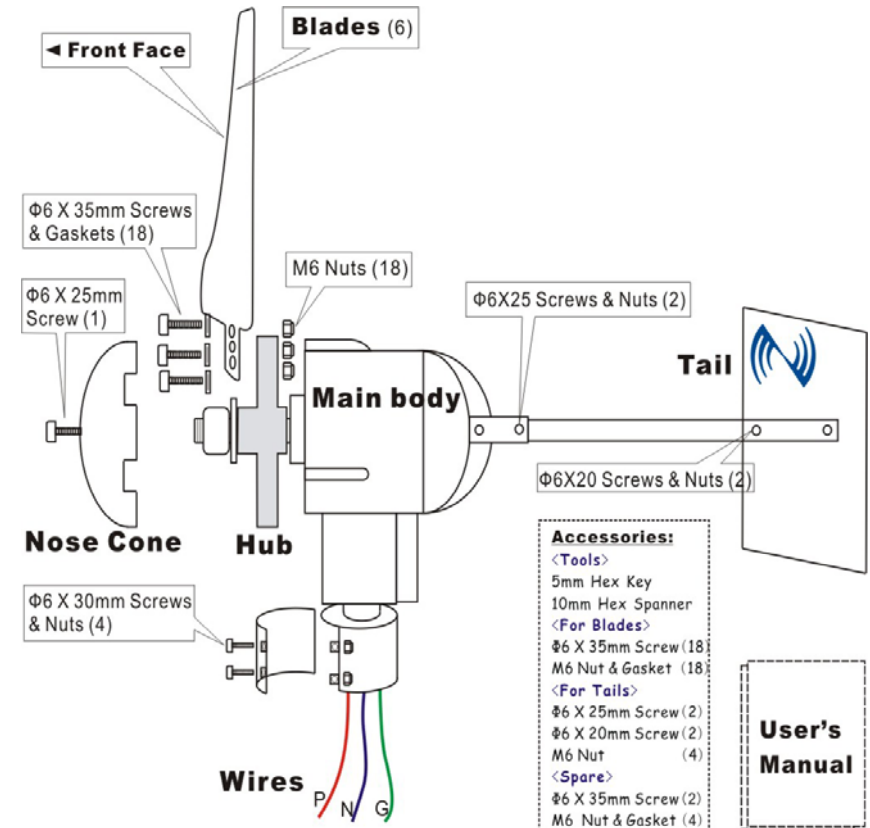

Figure 1: Package
The **MW wind turbine** is shipped partially disassembled. Compare the parts shown in Figure 1 to ensure that the contents of the box contain all necessary parts. And Refer to Figure 1 for assembly instructions.
- Make sure a minimum **50 mm** clearance must be given between the blade tips and any obstructions. Refer to *Figure 1* below.
The following *Step-By-Step-Installation-Procedures* provide you with an outline of the MW wind turbine installation process. Please refer to figure 1 while assembling.